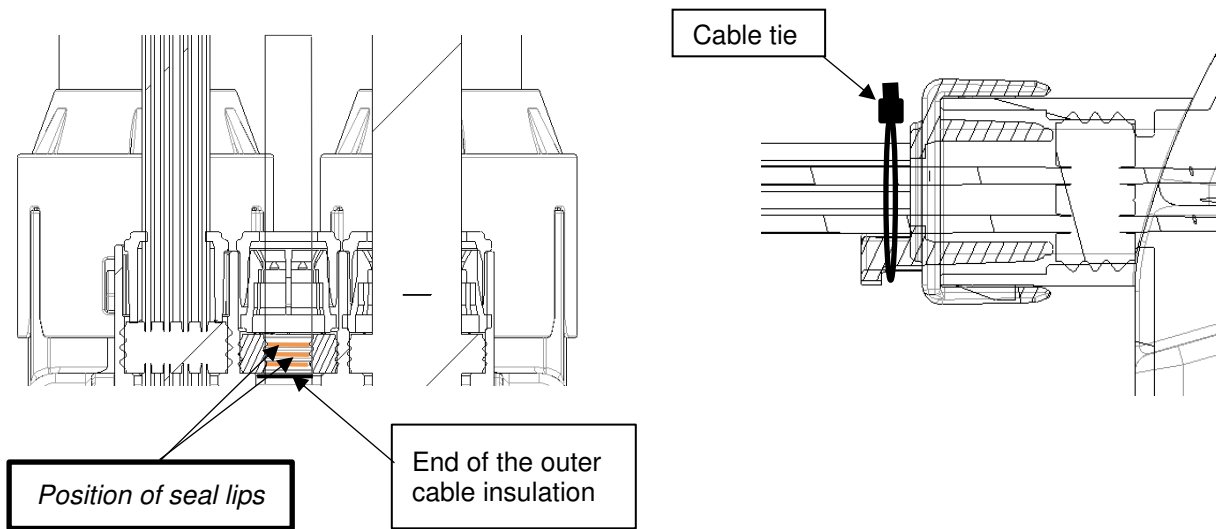

Figure 36a – AC seal lips
**ATTENTION:** Ensure that the AC cable is well positioned in the SEAL, that all seal lips are safely placed on the outer isolation of the cables. (Figure 36a)
Push the AC, PE and SIGNAL COVER over it and snap it on the CABLE EXIT COVER WITHOUT AC 2390858-1 OR WITH AC 2390858-2. Ensure that both hooks are correctly engaged (double audible click), see Figure 36a.
Place a CABLE TIE, (Black, 2.5 mm wide, 1 mm thick, 100 mm long, min. tensile strength: 80N) around the single wire signal cables and the bridge at the SIGNAL COVER and pull tight, see Figure 36a.